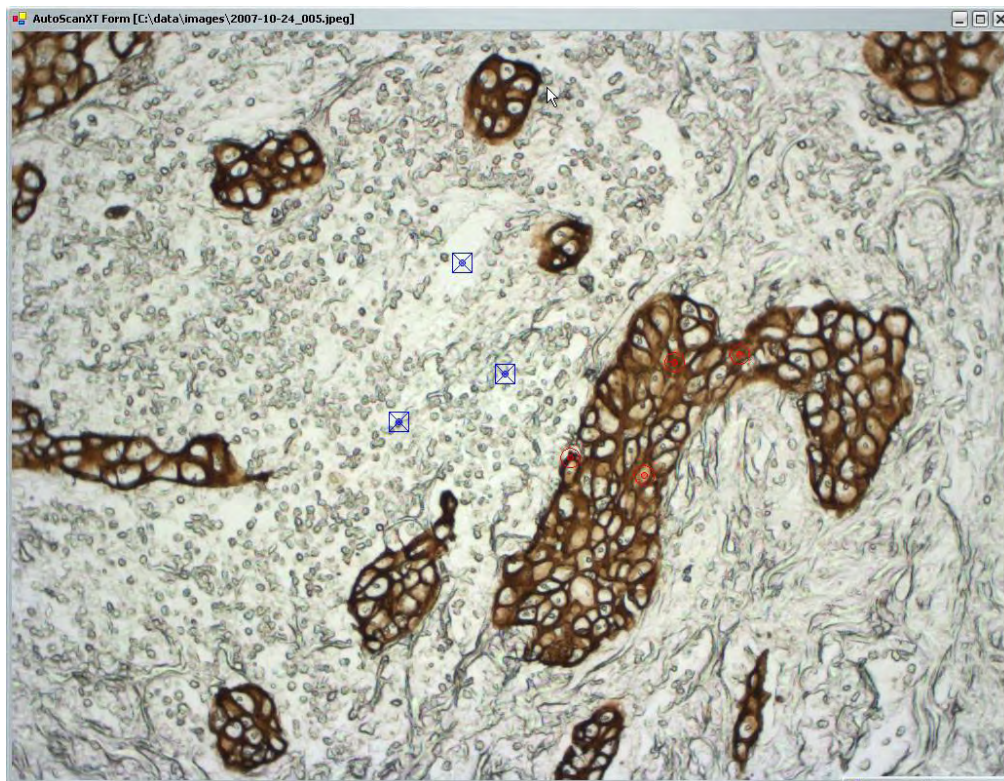

Figure 5. ROI and Background Selection.
- c. For each point selected, a drawing of two circles will be placed on the static image (Figure 5). Only the inner shaded circle area is utilized during analysis (see “Area of Influence” below for further information).
- c. The background area will be depicted by a shaded circle within a box (Figure 5). Only the shaded area is utilized during analysis (see “Area of Influence” below for further information).